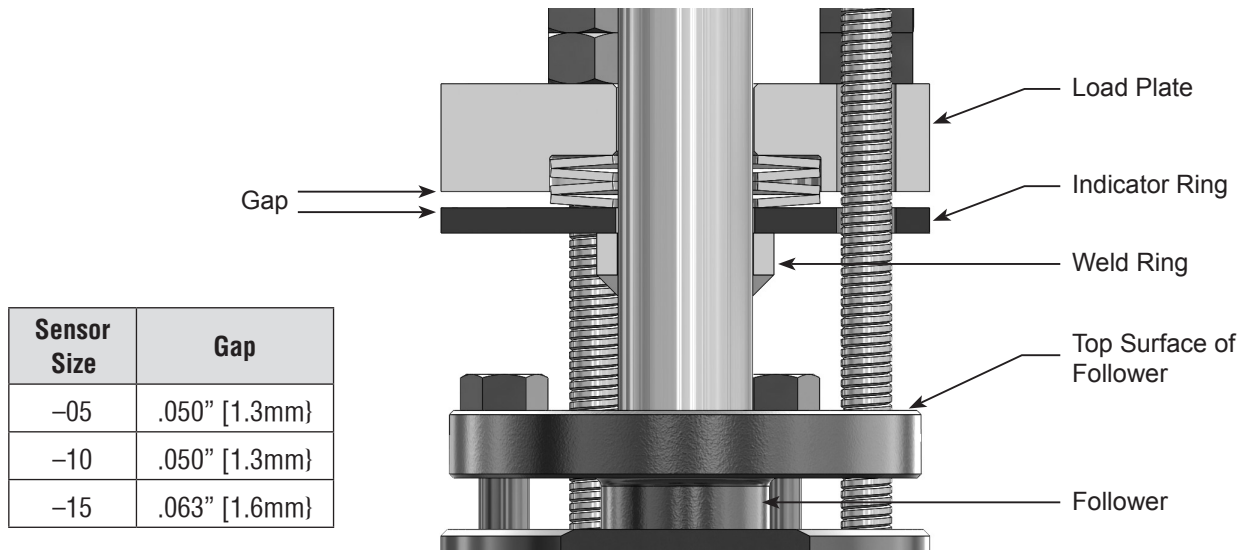

Figure 6. Proper Spring Compression
- Place the three lock washers and the three load nuts on the studs and tighten. Tighten the load nuts until the load plate is 0.050" (1.3mm) from the indicator ring for -05 and -10 sensors. For -15 sensors, the load plate should be 0.063" (1.6mm) from the indicator ring (Figure 6). For -05 sensors, this can be done by tightening all the load nuts until the load plate just touches the indicator ring and then backing off all the load nuts one complete turn. For -10 and -15 sensors, this can be done by tightening all the load nuts until the load plate just touches the indicator ring and then backing off all the load nuts 3/4 of a turn. The load springs are now properly set.
- Note: The weld on the weld ring (Figure 6) should not contact the top surface of the follower. If the weld on the weld ring comes into contact with the follower, the sensor will not be properly bottomed in the pipe. If this occurs, consult the factory before proceeding.